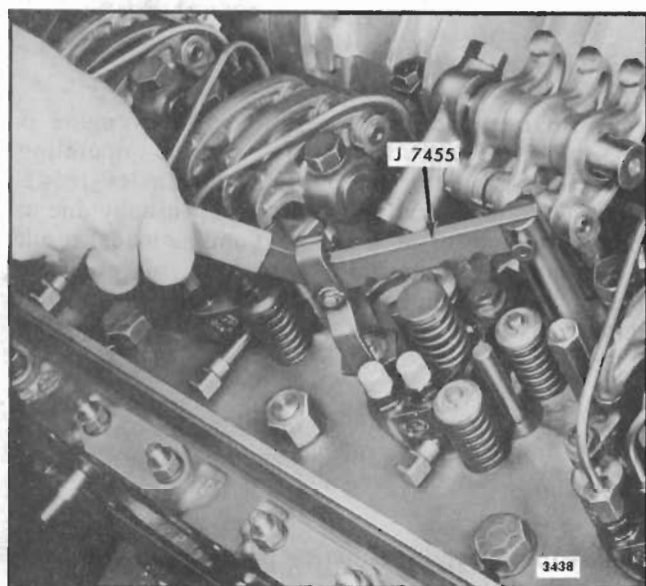

Fig. 3 - Removing Exhaust Valve Spring with Tool J 7455
7. Thread the valve spring compressor adaptor J 7455-7 into the rocker arm bracket bolt hole in the cylinder head (Fig. 3). Then compress the valve spring and remove the two-piece tapered valve lock.